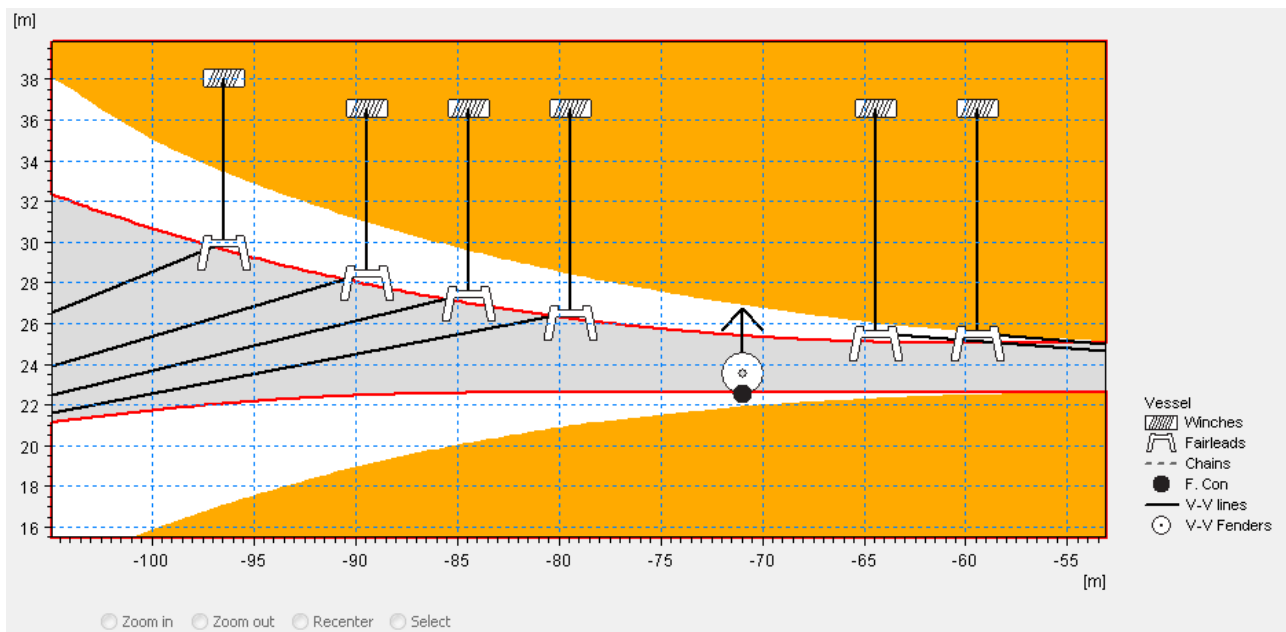

Figure 4.12 Example of a newly defined fender connection (dotted white circle with arrow icon showing the fender force direction)
- b. Moving the cursor and clicking on the F. Con icon (see Figure 4.12).